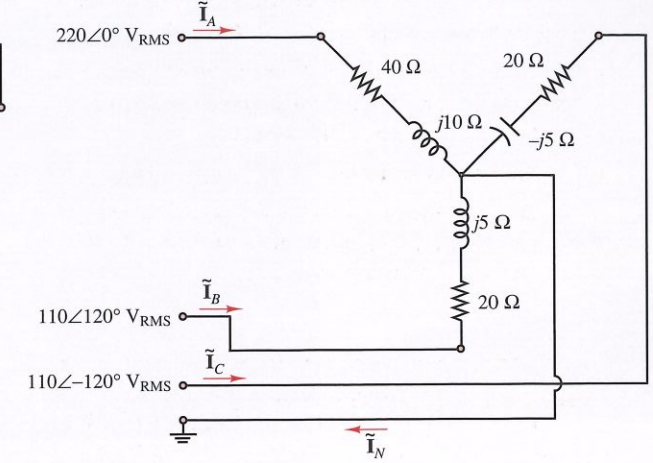

Figure P7.77
7.77 For the circuit shown in Figure P7.77, find the currents $\tilde{I}_A$, $\tilde{I}_B$, $\tilde{I}_C$ and $\tilde{I}_N$, and the real power dissipated by the load.